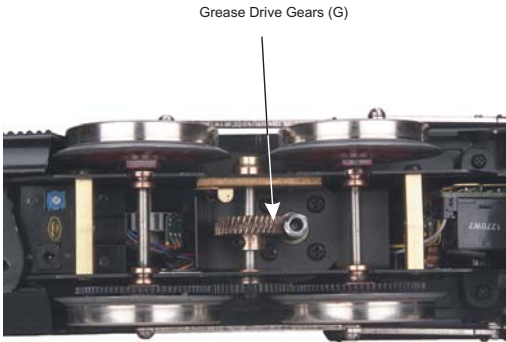

Figure 9: Greasing the gears
2. As seen in Figure 9, once the drive train has been removed, access to the gearing is available. Lightly coat the motor worm gear and bronze drive gear (inside the drive train) with grease.